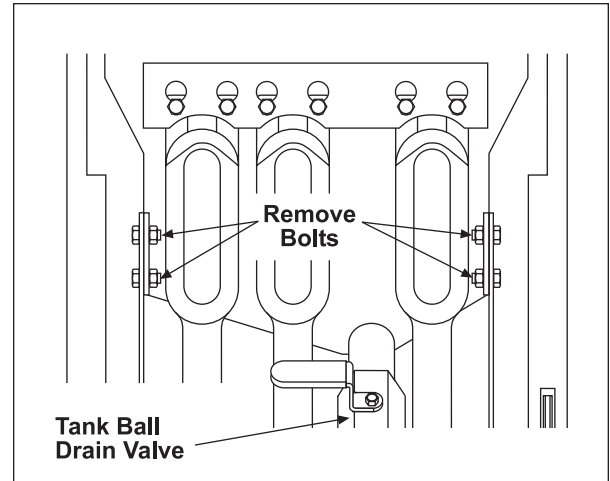

Figure 18
7. Remove the manifold bracket from the tank assembly by removing the (4) bolts (Figure 18).
11. Remove the tank ball drain valve (Figure 18).